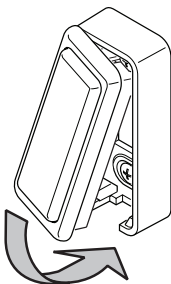

Figure 6 - Attach Push Button onto Back
9. Once your push button and chime are wired and functioning correctly, insert top of push button into top of back and snap bottom of push button into place (see Figure 6). **Note:** The push button must be mounted with the keyfinder lens facing downward.